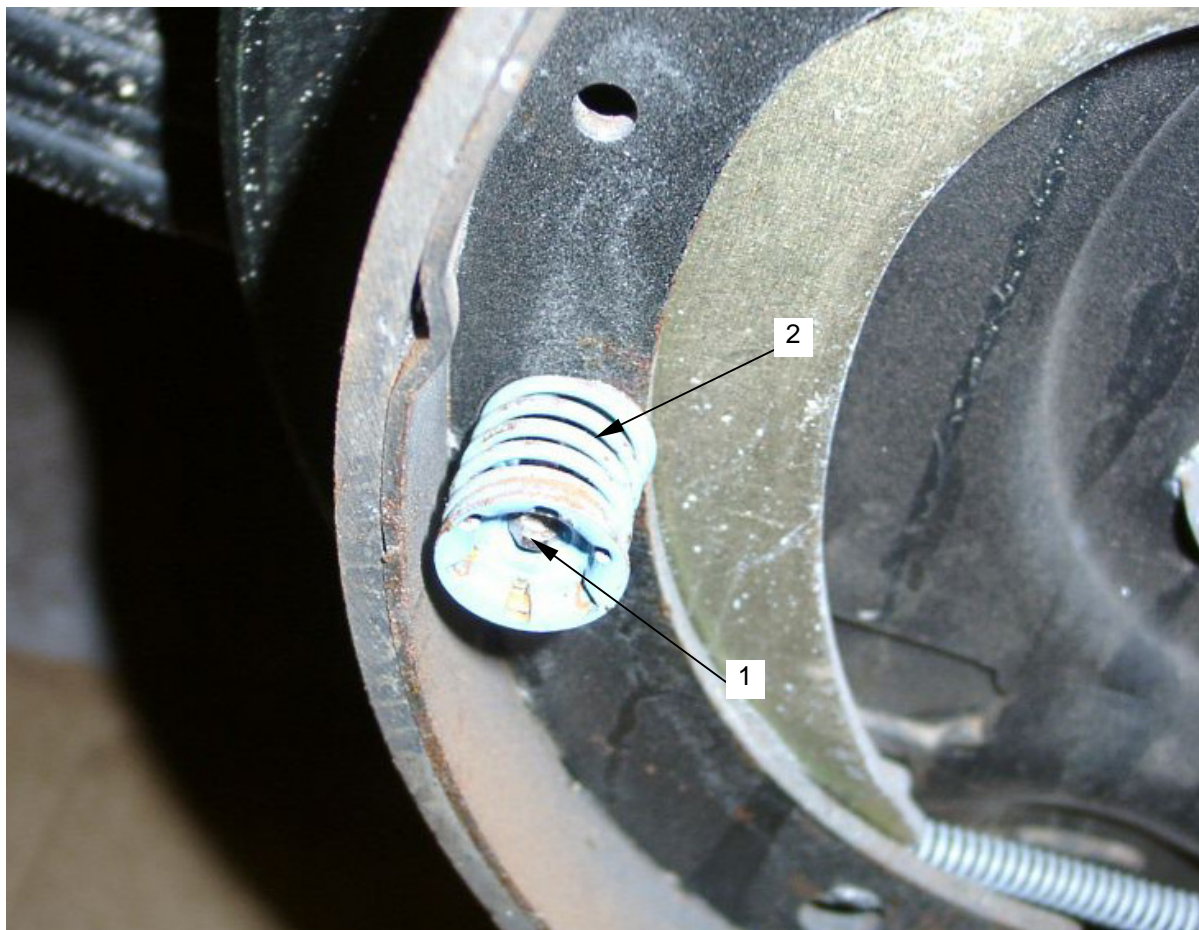

Figure 34. Hold Down Spring
- ii. Install retaining pin (**figure 34, item 1**) on secondary brake shoe.
- jj. Install hold down spring (**figure 34, item 2**) on retaining pin.
- oo. Install retaining pin (**figure 34, item 1**) on primary brake shoe.
- pp. Install hold down spring (**figure 34, item 2**) on primary brake shoe.